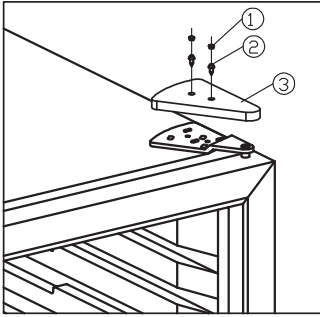

Abb. 5.1
- Pull out the screw covers and unscrew the decorative cover. See fig.5.1